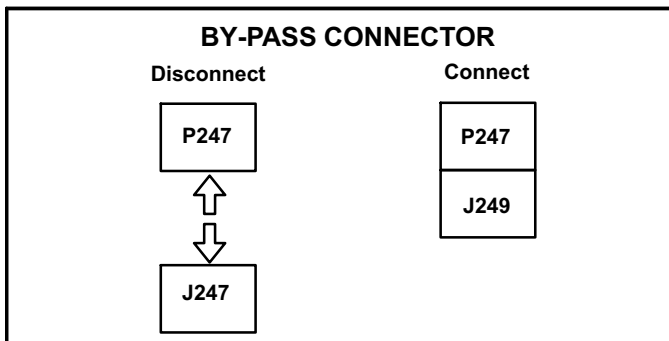

FIGURE 39
- 4- Disconnect P247 from J247 and connect J249 to P247. See figure 39.